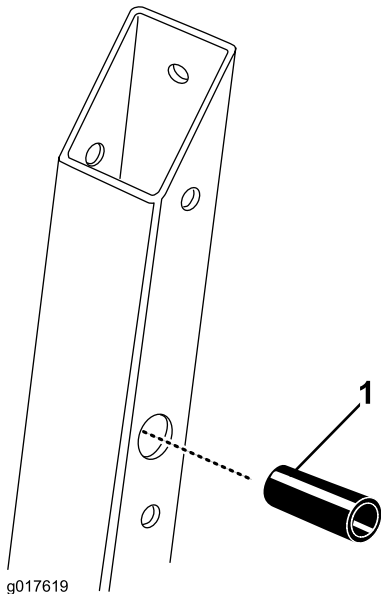

Figure 3
- 1. Insert the cylindrical spacer in the pivot holes in both rollbar supports (Figure 3).